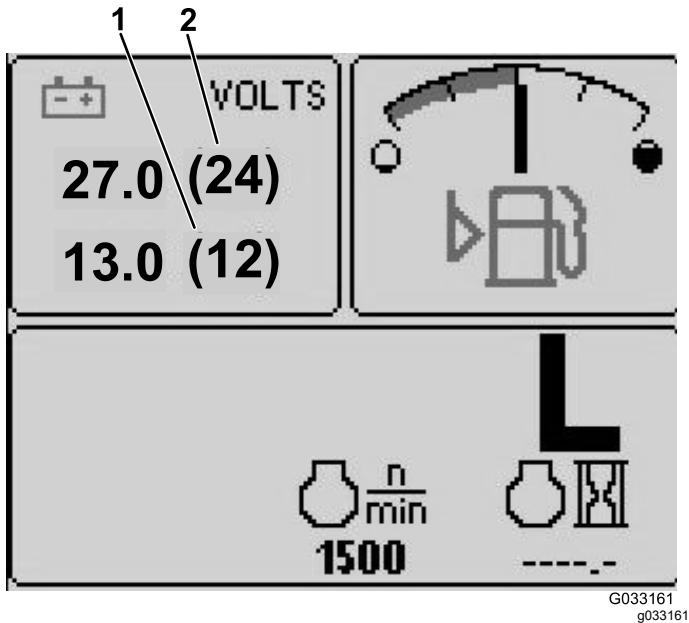

Figure 4
- 12 V battery-voltage indicator—top, left screen (Figure 4)
- 24 V battery-voltage indicator—top, left screen (Figure 4)
This display shows both the 12 V and 24 V battery voltage (Figure 4).